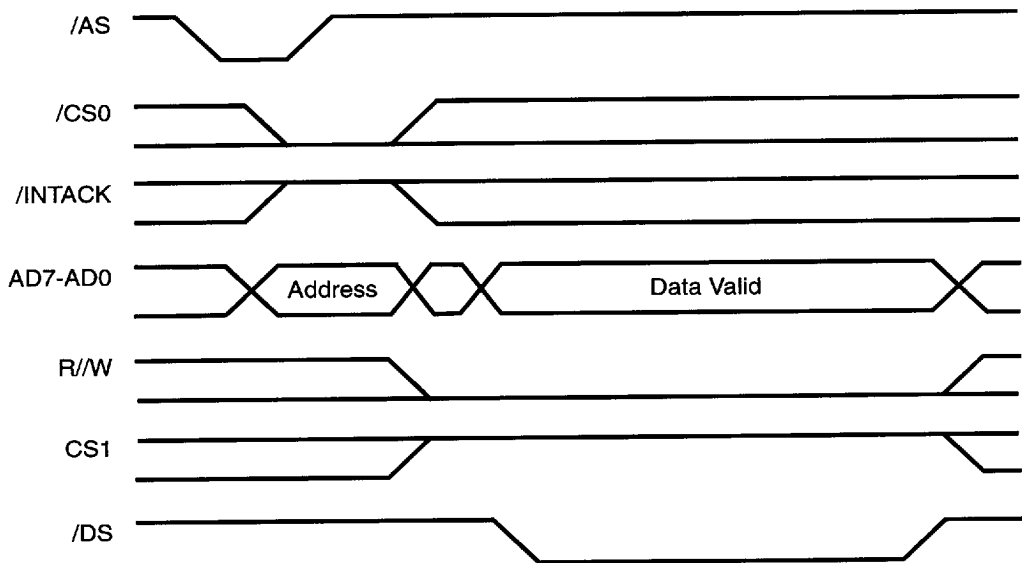

Figure 16. Write Cycle Timing
**Write Cycle Timing.** Figure 16 illustrates Write cycle timing. The address on AD7-AD0, and the state of /CS0 and /INTACK are latched by the rising edge of /AS. R/W